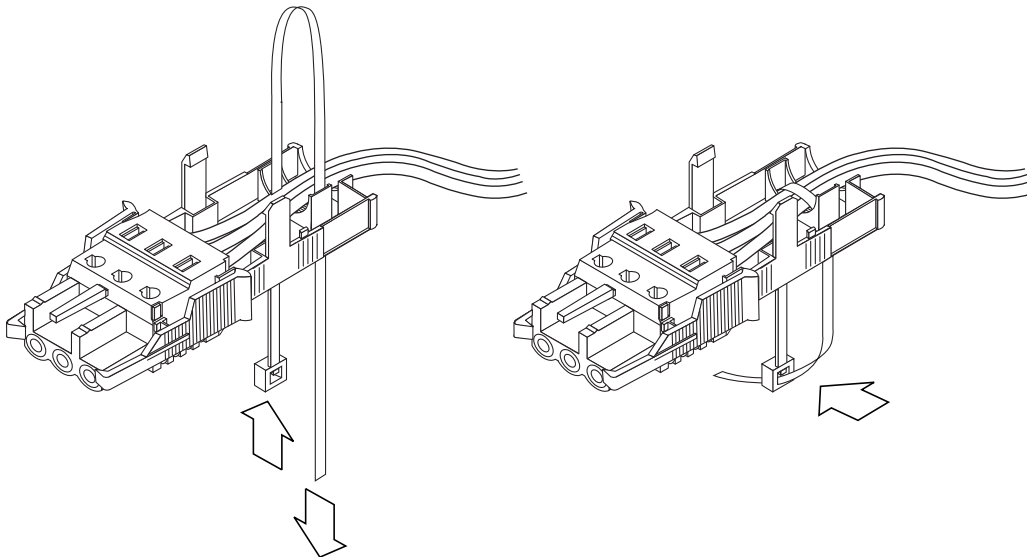

FIGURE 3-8 Securing the Wires to the Strain Relief Housing
- 3. Insert the tie wrap into the bottom portion of the strain relief housing (see FIGURE 3-8).**
- 4. Loop the tie wrap over the wires and back out of the strain relief housing and tighten the tie wrap to secure the wires to the strain relief housing (see FIGURE 3-8).**